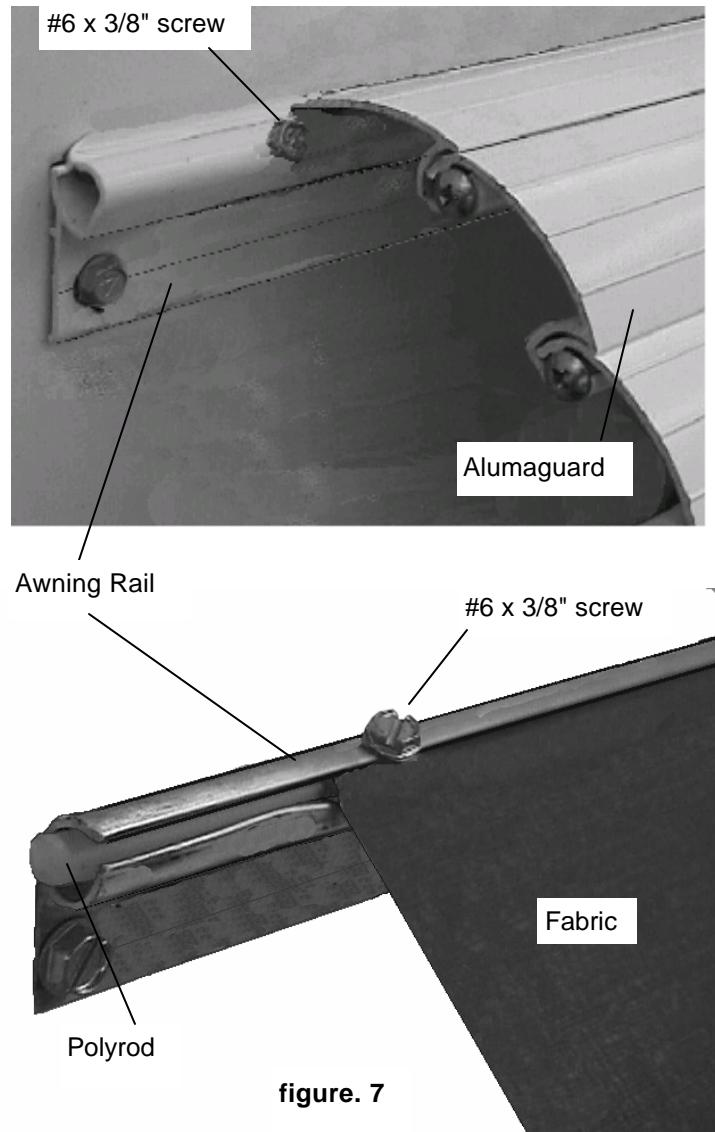

figure. 7
- Secure the canopy fabric or Alumaguard using one, #6 x 3/8" hex head screw at the front and back end of the awning (figure 7), a 1/4" Nut Driver will be required.